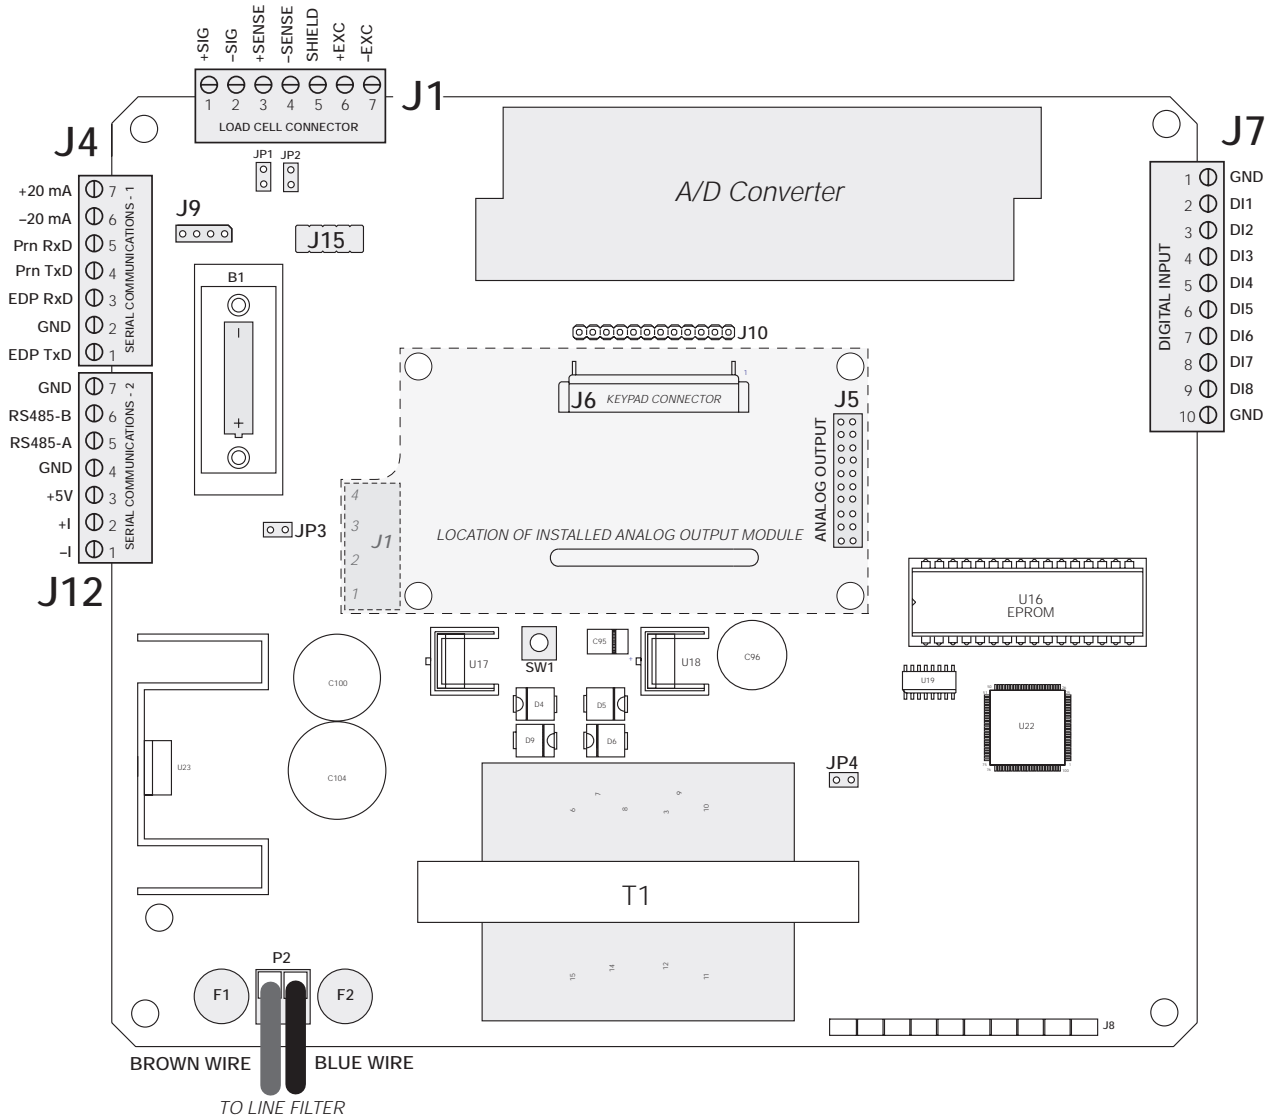

Figure 2-1. IQ plus 510 CPU and Power Supply Board, Version 2
To attach cable from a load cell or junction box, remove connector J1 from the board. The connector plugs into a header on the board (see Figure 2-1).
Wire the load cell cable from the load cell or junction box to connector J1 as shown in Table 2-1. If using 6-wire load cell cable (with sense wires), remove jumpers JP1 and JP2 before reinstalling connector J1 (see Figure 2-1). For 4-wire installation, leave jumpers JP1 and JP2 on.
Mount the analog output module on its standoffs in the location shown in Figure 2-1 on page 4 and plug the module input into connector J5 on the IQ plus 510 board. Connect output cable to the analog output module as shown in Table 2-4, then reassemble the enclosure (Section 2.5).
2. Unplug connectors J1 (load cell cable), J4 and J12 (serial communications), J7 (digital inputs), J6 (keypad ribbon cable), and JP4 (setup switch). If an analog output board is installed, disconnect the analog output cable. See Figure 2-1 on page 4 for connector locations.